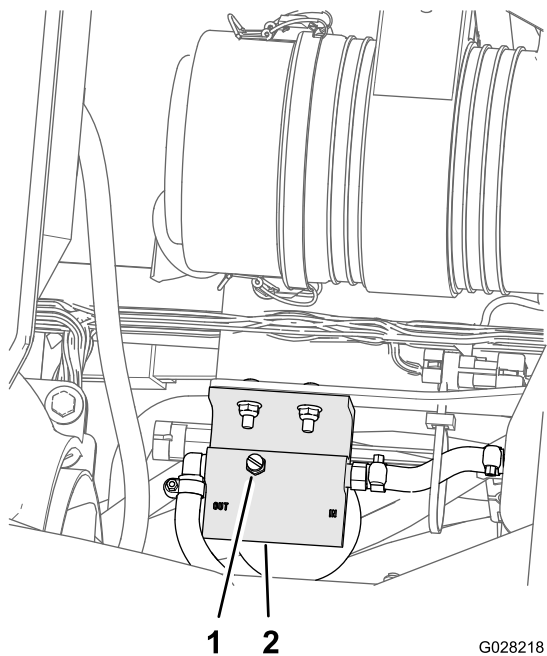

Figure 74
- Loosen the vent plug at the top of the fuel/water separator (Figure 74).
7. Tighten the vent plug and turn the starter switch to the OFF position (Figure 74).